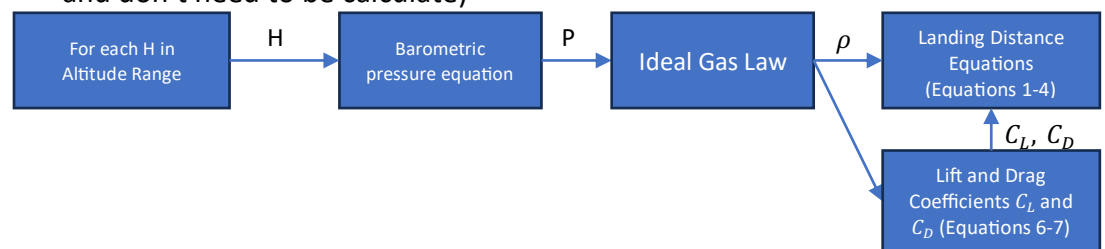

Figure 3. Components supporting Q4b
- Use the barometric pressure equation (Equation 8), ideal gas law (Equation 5), and landing distance equations (Equations 1-4); see Figure 3 (which doesn't include terms that are constant through the process and don't need to be calculate)